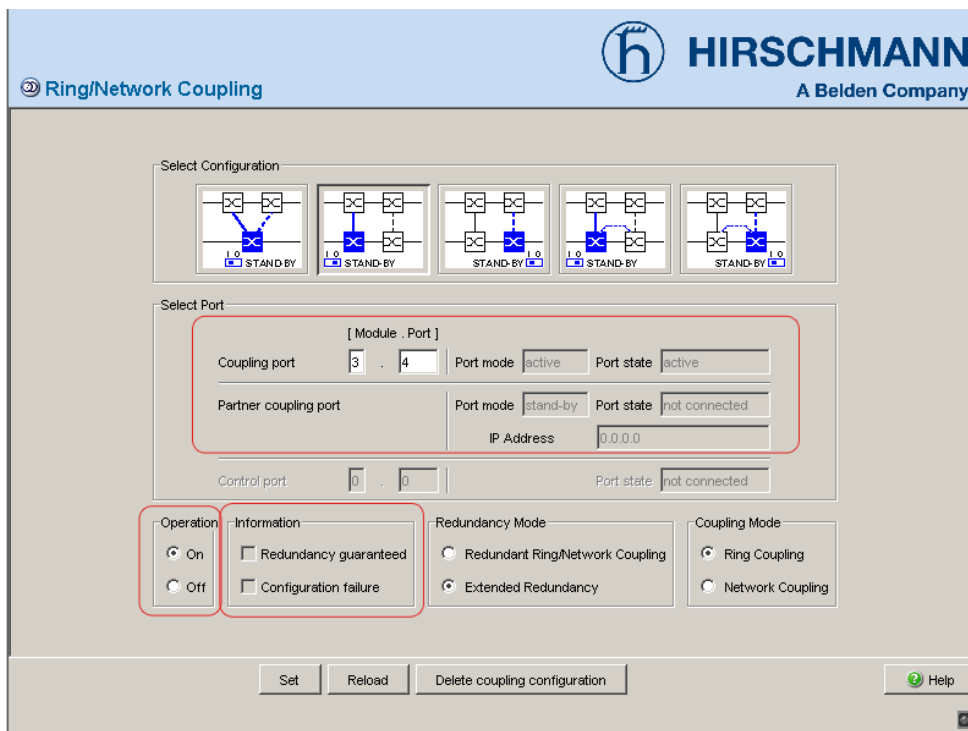

Figure 46: Selecting the port and enabling/disabling operation
- Select the coupling port (see fig. 46), (see table 16).
- Activate the function in the “Operation” frame (see fig. 46).
The displays in the “Select port” frame mean (see fig. 46):
The displays in the “Information” frame mean (see fig. 46):